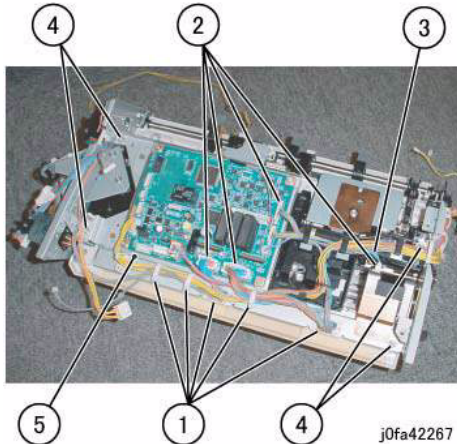

Figure 2 Moving the Bottom Plate (j0fa42267)
7. Remove the Bottom Plate. (Figure 2)